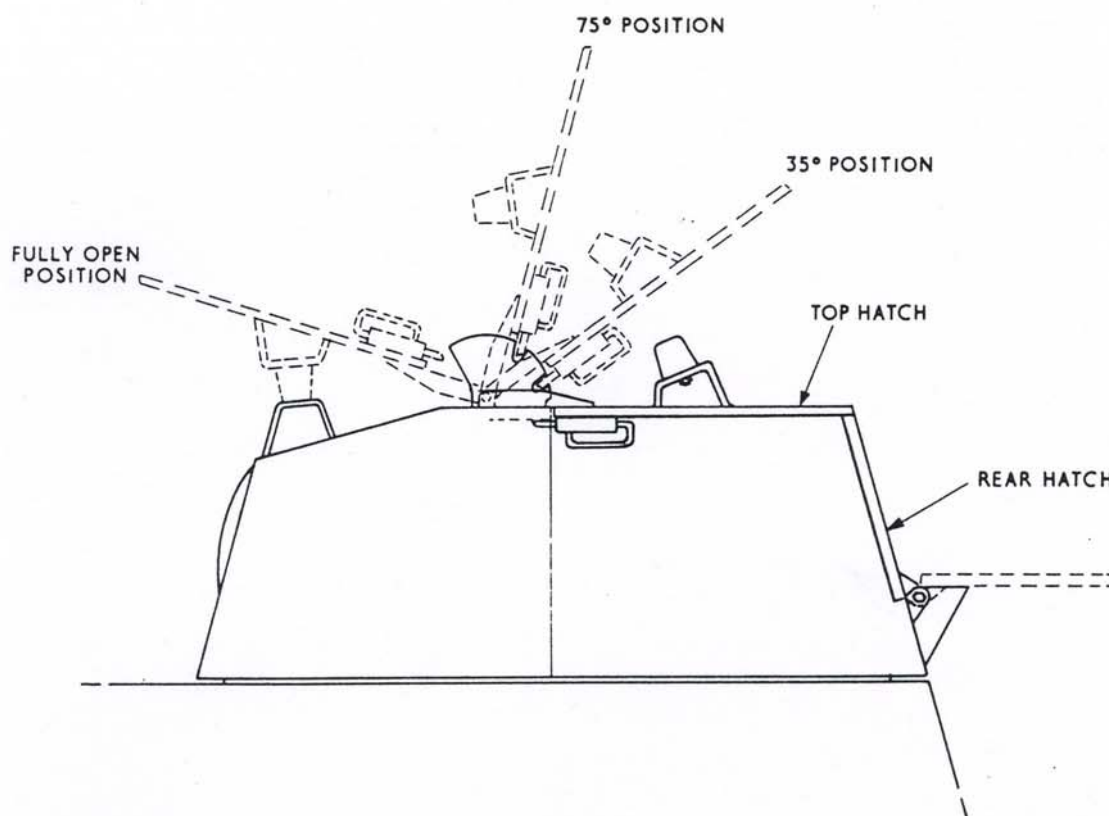

Fig. 2-5 Top and rear hatches
5. Top and rear hatches (Fig.2-5)